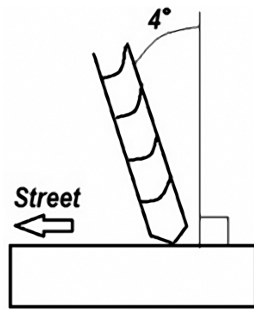

Fig. 2
- 2) Drill a hole using a 5/8" masonry bit at approximate 4 degrees angle, leaning the drill back toward the street, parallel with either side of the driveway (Fig 2).